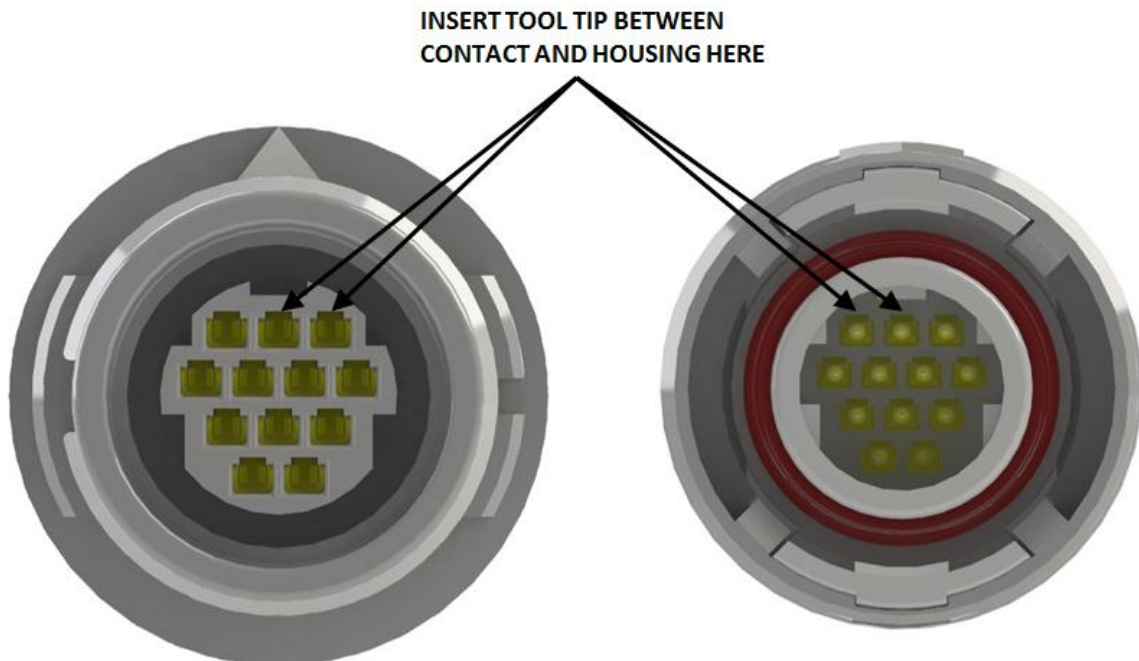

FIGURE 2
The CC393 and TC114 Mini Push-Pull AccliMate™ contacts and terminals have a retaining lance that can be released through an access cavity located inside the housing as shown in **Figure 2**. The Extraction Tool has a tip that is inserted into the cavity to depress the lance the correct amount for contact removal.
2. Engage the tip of the Extraction Tool in the access cavity as shown in **Figure 2**. With downward pressure, push the tool toward the back of the window to release the lance.